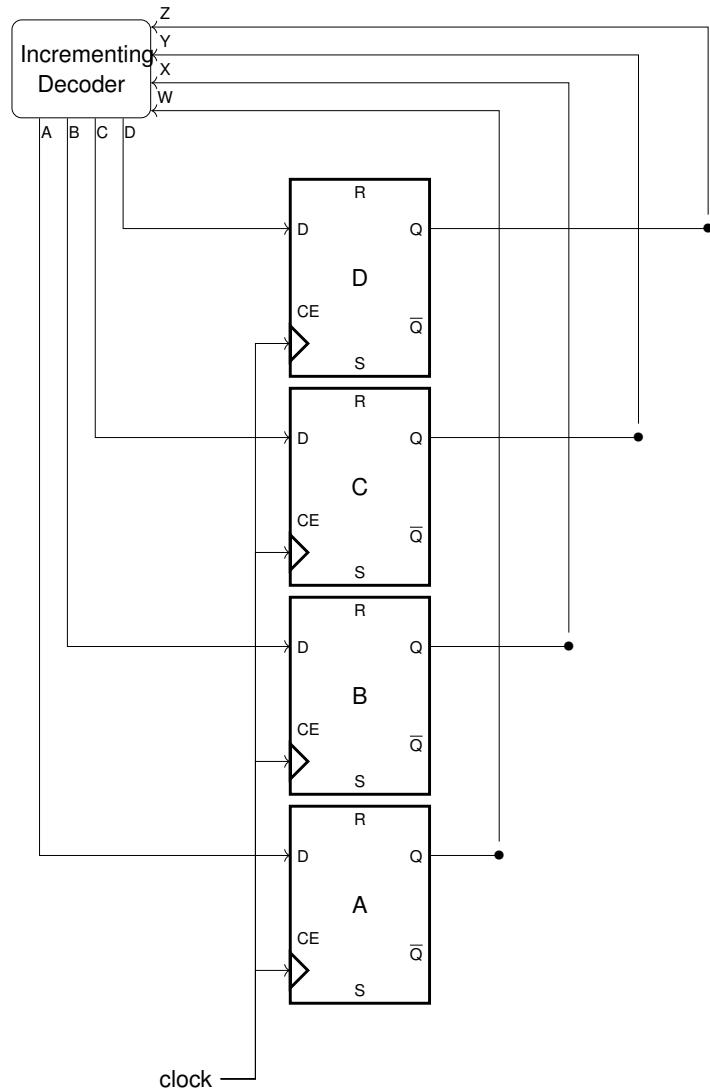

Fig. 6.2: Decade counter FSM implementation using D-Flip Flops
- The FSM implementation is available in Fig 6.2 The *flip-flops* hold the input for the time that is given by the *clock* This is nothing but the implementation of the *Delay* block in Fig 5.2